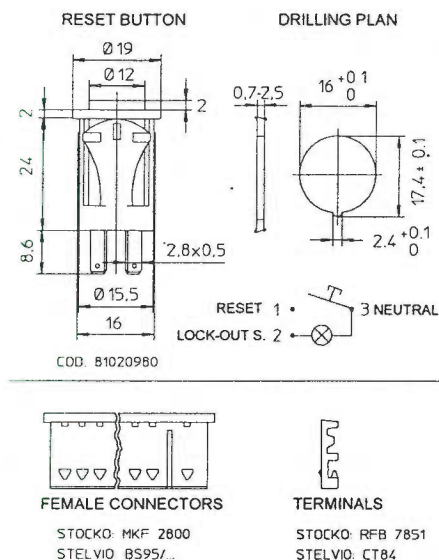
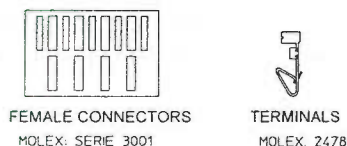

Fig.2
Fig.3
- (1): This contact is not isolated from the main supply voltage by reinforced isolation, therefore the relay contact is not suitable to supply SELV circuits - Safety Extra Low Voltage.
(3): Standard connectors are stelvio-stocko models, see Fig.2.
The control units are usually supplied with a kit of female connectors and/or a reset button (see Fig.2 and Fig.3).